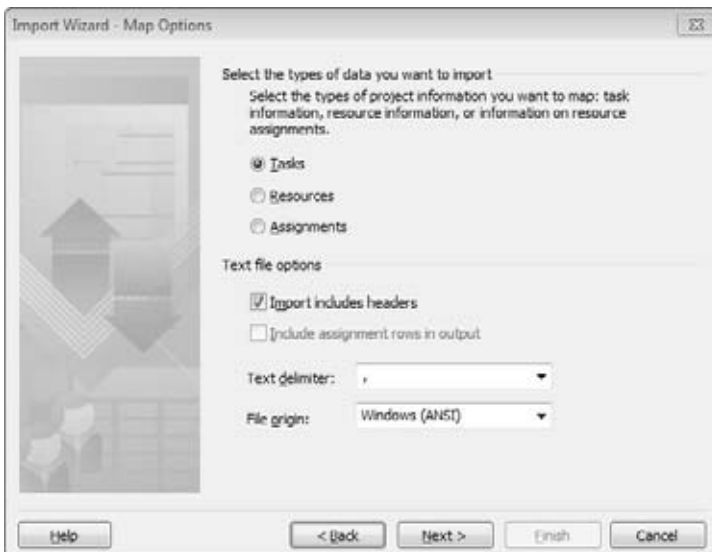

Figure 20-5:
6. On the Import Wizard—Map Options page, select the types of data you want to import, as shown in Figure 20-5. Click Next.